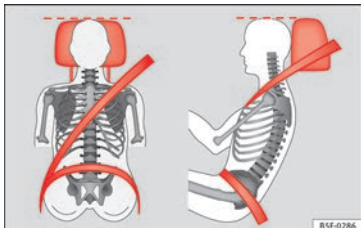

Fig. 4 Correctly adjusted head restraint as viewed from the front and the side.
- Adjust the head restraint so that its upper edge is, as far as possible, at the same level as the top of your head, or at the very least, at eye level » **Fig. 4.**